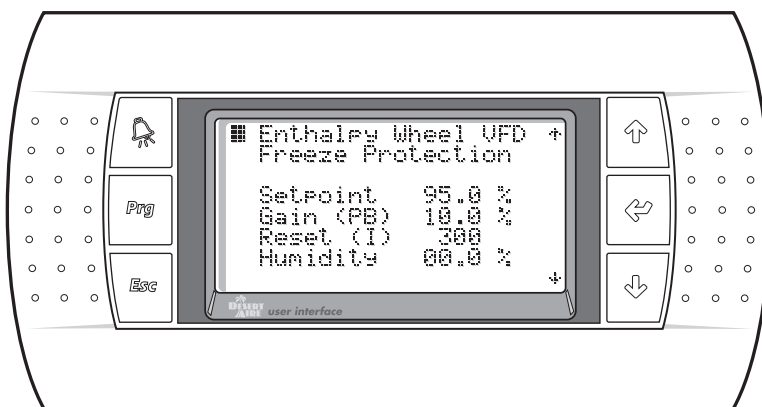

Figure 61
2.6.2.6 Enthalpy Wheel Settings (Figures 61 - 62)
This screen will only be shown if the Enthalpy Wheel option is selected in the unit setup and a VFD is provided. The screen shown in Figure 61 allows modification of the Enthalpy Wheel Relative Humidity Set Point, PID Gain (or Proportional Band) and Reset (or Integral) for the freeze protection. The Humidity level in the exhaust section of the unit is also shown. The range of the Gain is 0.0% to 99.9%. The range of the Reset is 0 to 999. The range for the Set Point is 0.0% to 99.9%. To modify these set points, press the **ENTER** key until the desired set point is selected and use the arrow keys until the desired setting is shown. Press the **ENTER** key to accept the set point value.